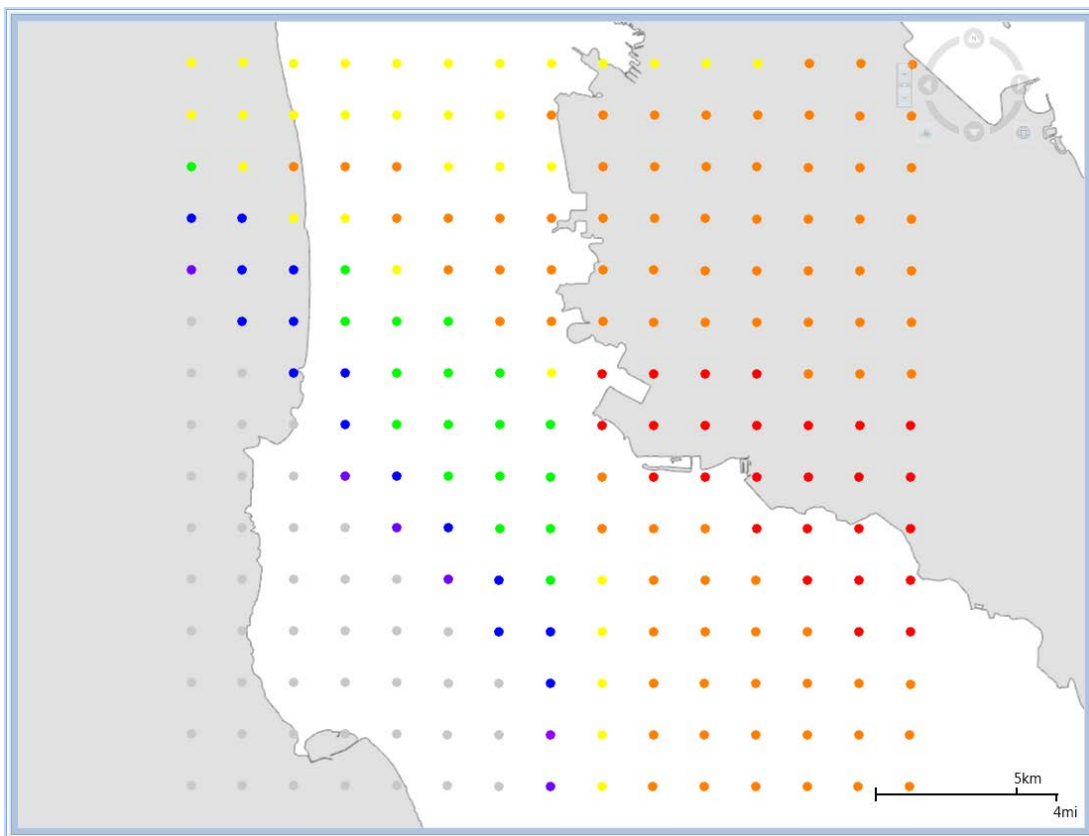

Figure 5-26 Sample Emissions Concentration Layer
3. The concentration layers are displayed on the map (Figure 5-26) and in the *Layers* manager.